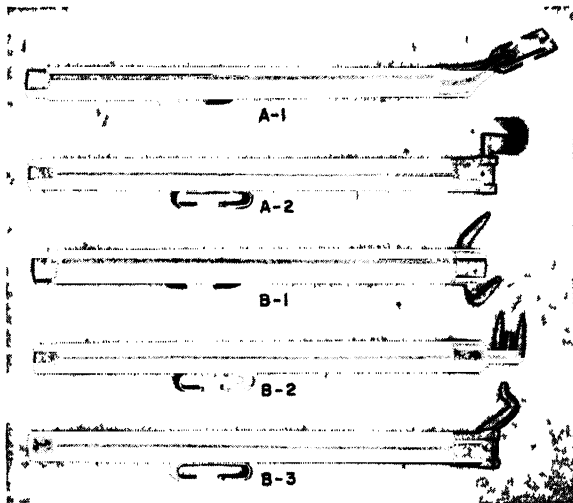

FIG. 22-20. The sticks for use on live lines (a) Blade type: (1) fixed, (2) rotary (b) Prong type (1) two prong, (2) three prong, (3) rotary prong.
**Tie Sticks.** The sticks are used to fasten or unfasten the tie wire which holds the conductor to the pin-type insulator (see Fig. 22-20). The sticks are usually also equipped with a small double hook called the